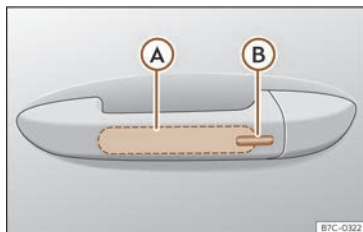

Fig. 47 Driver door lever: sensor surfaces.
>>> Fig. 47
- Touch the sensor surface >>> Fig. 47 Ⓑ on the outside of the door handle. All turn signals flash once.
- Within 5 seconds, touch the sensor on the outside of the door handle >>> Fig. 47 Ⓑ once. Do not grip the handle while doing so. This temporarily deactivates the Keyless Access system.
To close all the electric windows and the sunroof using the **comfort function**, keep a finger for a few seconds on the locking sensor surface >>> Fig. 47 Ⓑ of the door handle until the windows and roof have closed.